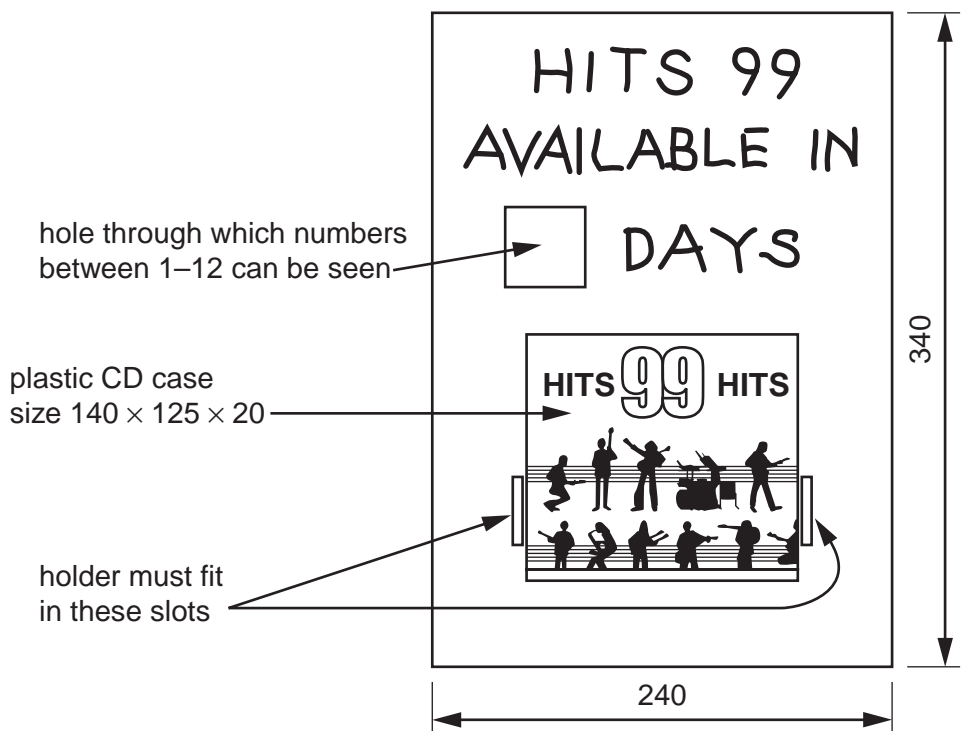

Fig. 9
8 Fig. 9 shows an incomplete idea for a point of sale display stand advertising a new CD (disc). The display stand is made from card.
- (d) Using notes and sketches, develop a design for the lettering shown in Fig. 9 to go on the stand in the given position. [16]